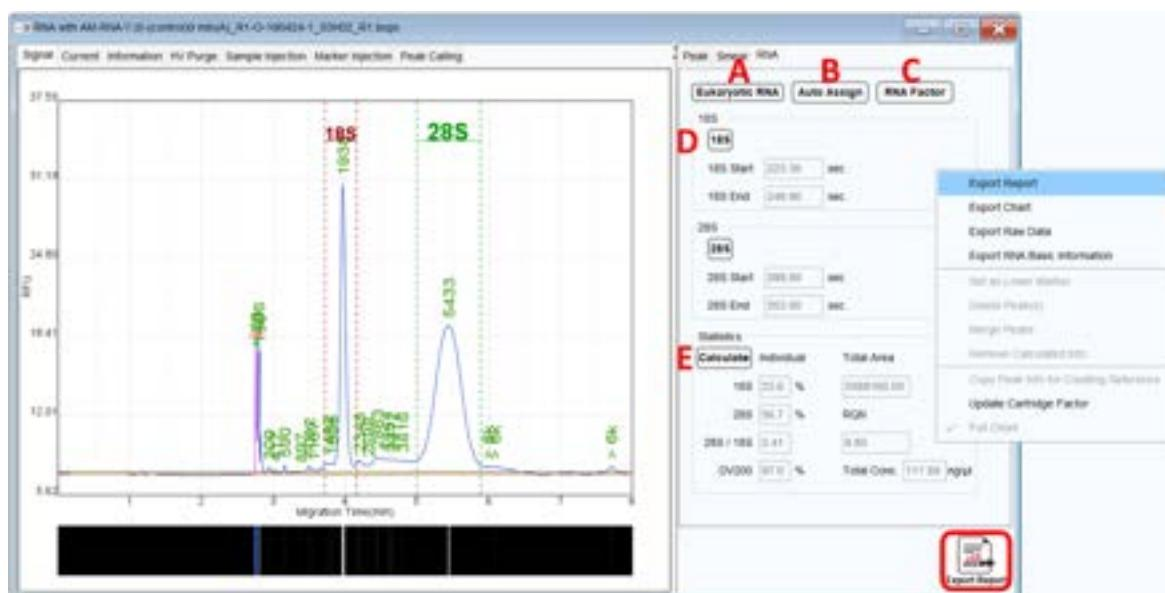

Figure 72 RNA Quality Check Panel
- To choose either Eukaryotic RNA or Prokaryotic RNA, click on the **Eukaryotic RNA** button (Figure 72 A)
- The systems will **Auto Assign** 18S/28S RNA (Eukaryotic) or 16S/23S RNA (Prokaryotic) based on your selection (Figure 72 B). If the margins do not properly cover the RNA area, you can manually drag them to the correct positions.
- To save the settings, click on the **RNA Factor** button to edit and save the RNA factor table (Figure 72 C).
- By clicking the 18S and 28S or 16S and 23S buttons, you can either hide or show (by default) the rRNA assignation on the electropherogram (Figure 72 D).
- Click on the **Calculate** button, and the 28S/18S or 23S/16S ratio, along with the RQN (RNA Quality Number) will be displayed (Figure 72 E).